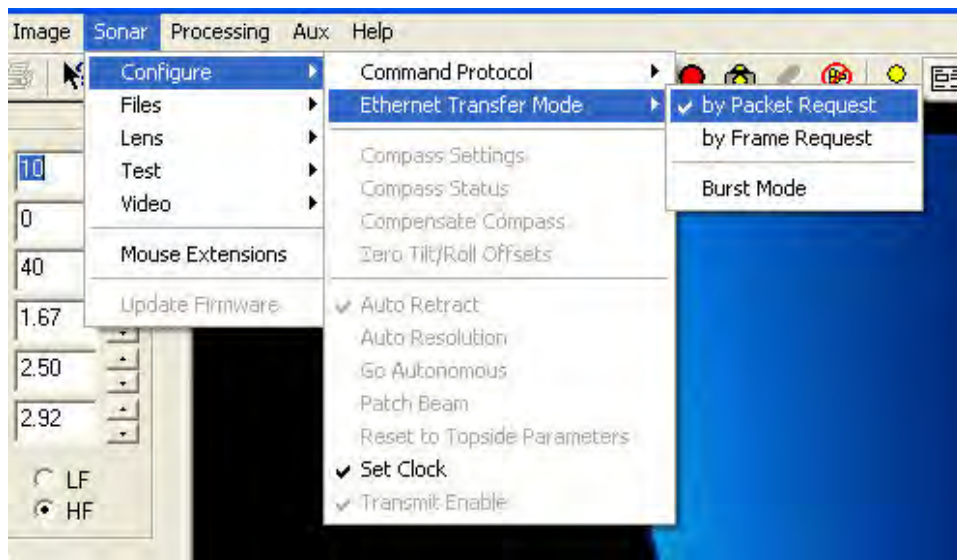

Figure 7. Select Ethernet Transfer Mode
- **IMPORTANT:** In the topside software, be sure the *Ethernet Transfer Mode* is set to *Packet Transfer*, or the Ethernet Extender will not communicate with the DIDSON. This is done by setting the following: *Sonar>Configure>Ethernet Transfer Mode>by Packet Request*. See **Figure 7**. For the highest possible frame rates, in software V5.16.04 and higher, choose: *Sonar>Configure>Ethernet Transfer Mode>by Packet Request>12 kb*.